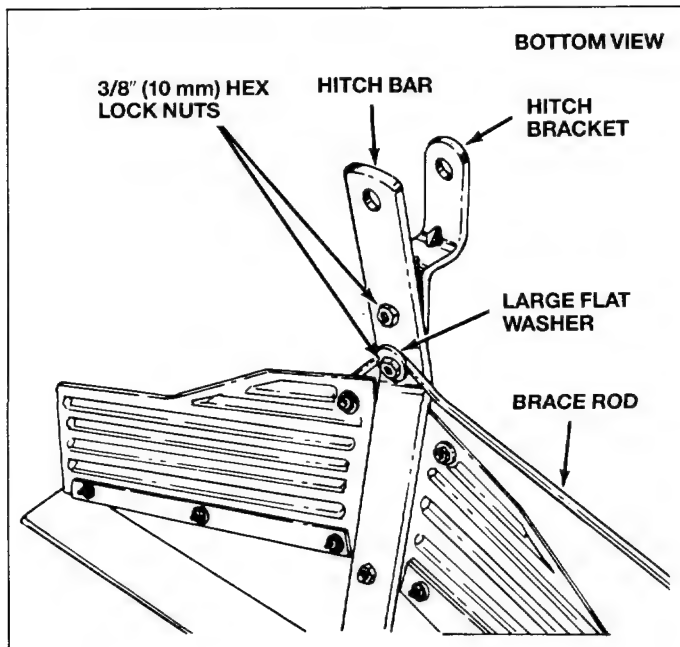
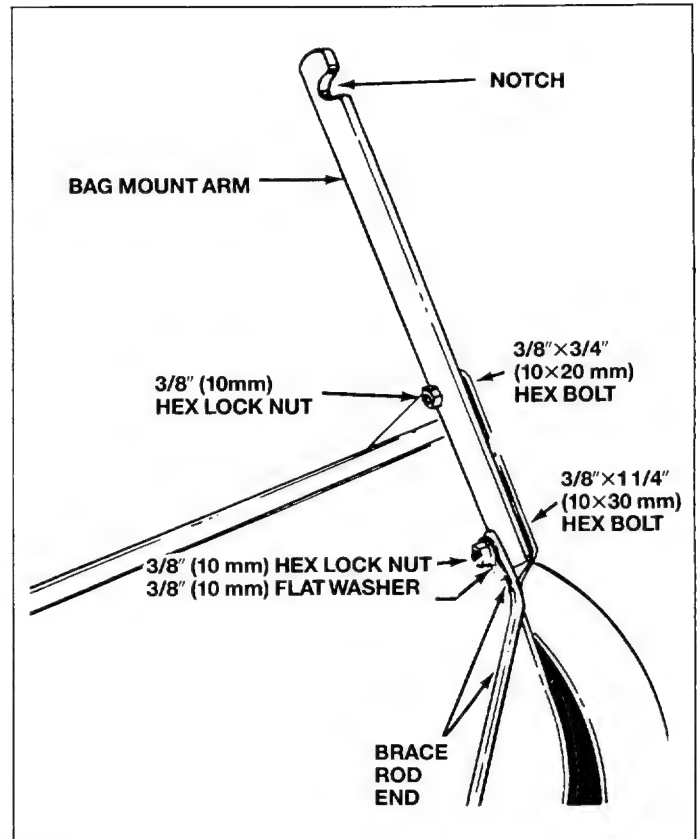

Fig. 7
Fig. 8
7. Assemble the two bag mount arms and top ends of brace rod. See figure 8. Assemble the top hole in arms to sweeper housing using two $3/8" \times 3/4"$ (10×20 mm) hex bolts and $3/8"$ (10 mm) lock nuts. The notched side of mount arms face upward and mount on the inside of housing. See figure 8. Assemble the brace rod under hitch bar and large flat washer in back hole of hitch bracket, then assemble brace rod ends to bottom holes in arms and sweeper housing, using two $3/8" \times 1-1/4"$ (10×30 mm) bolts, $3/8"$ (10 mm) flat washers and $3/8"$ hex lock nuts. See figures 7 and 8. Do not tighten at this time.